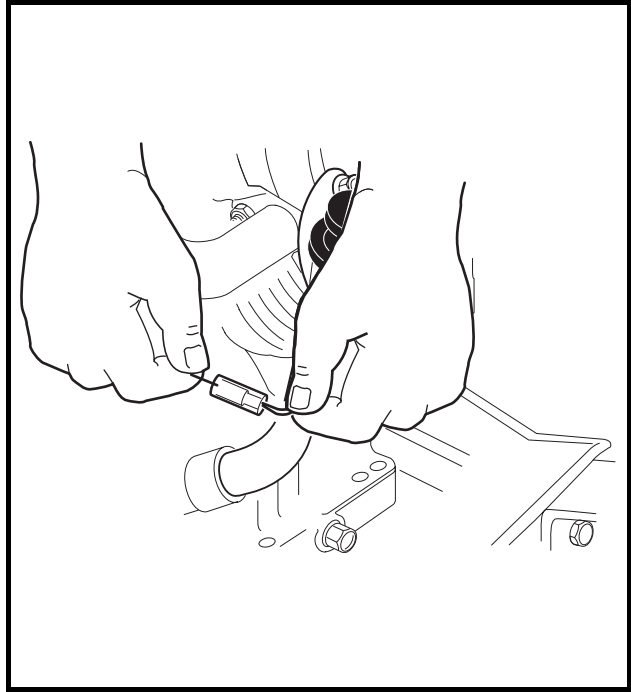

Figure 19-18 Ignition Kill Wire
- 4.10. Disconnect the engine kill switch wire (18-gauge white/black) from the bullet connector at the lower right front of the engine (**Figure 19-18, Page 19-9**).